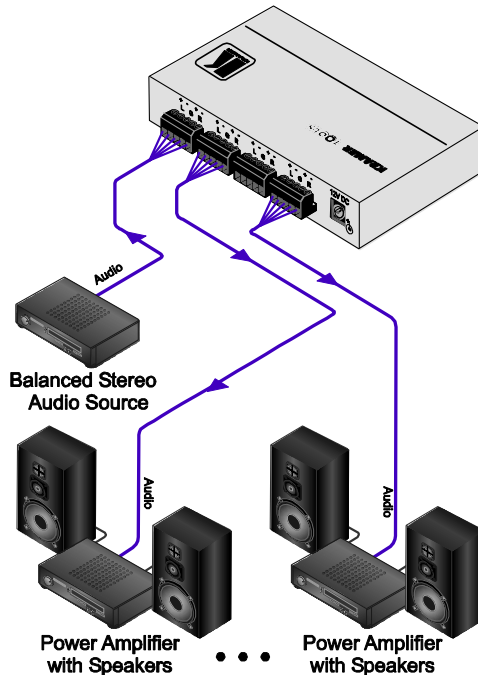

Figure 4: Connecting the VM-3AN Audio Distributor
To connect¹ the **VM-3AN**, as illustrated in the example in *Figure 4*, do the following:
3. Connect the 12V DC power adapter to the power socket and connect the adapter to the mains electricity (not illustrated in *Figure 4*).